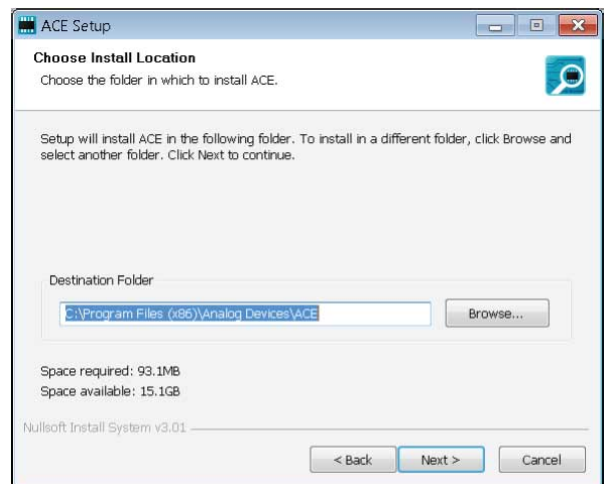

Figure 10. Choose Installation Location
6. Click **Browse...** to choose the installation location and then click **Next** (see Figure 10).